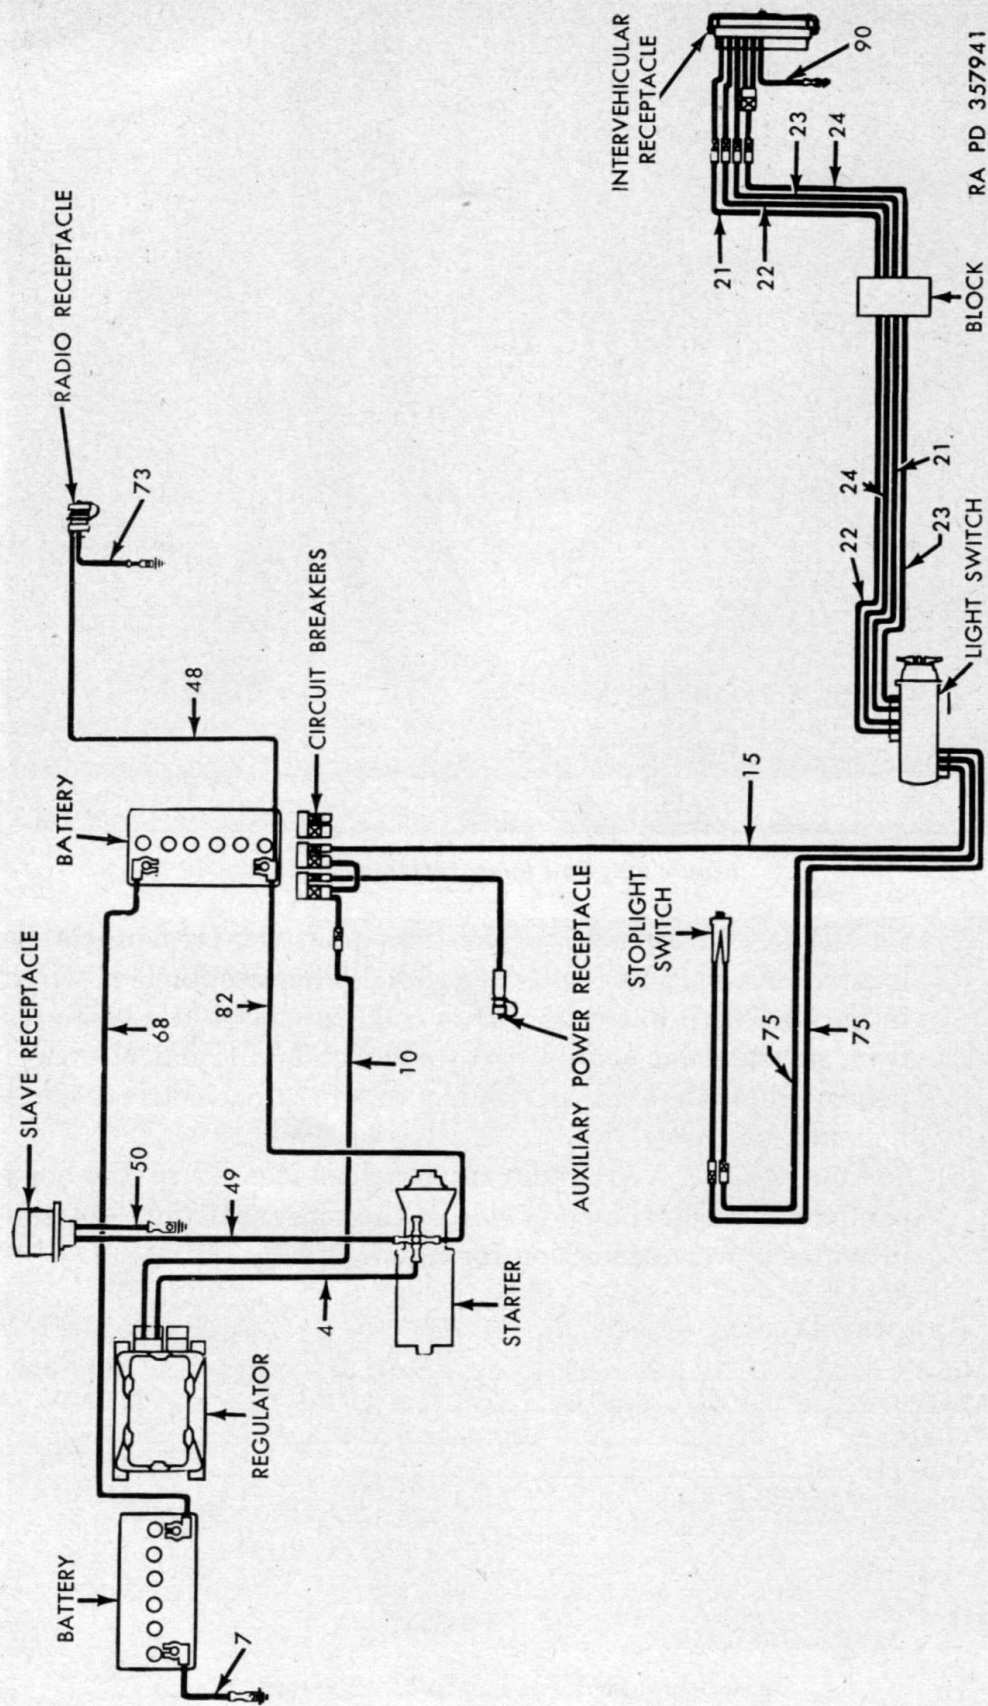

Figure 63. Auxiliary outlets.
- (6) *Trailer connection*. A four-terminal connector (fig. 63) is mounted at rear of vehicle, left of hinged tail gate. This connector provides means of connecting stop and tail lights on trailer with those on vehicle.
- (7) *Slave-battery receptacle.* The slave-battery receptacle is located on the right fender (fig. 63). The receptacle is wired in parallel with batteries. It is used to charge the batteries from an external source or to connect additional electrical power from an external source to operate electrical components.
(Fig. 63)